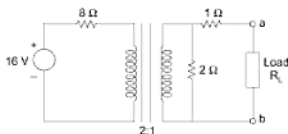

Fig. A1-57
- (c) In the network shown in Fig. A1-57.